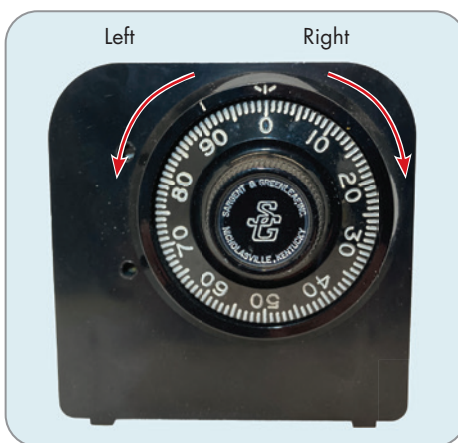

Figure 13-1: We'll refer to turning your dial counterclockwise as dialing left, and to turning it clockwise as dialing right.
- Instead of *clockwise* and *counterclockwise*, we'll refer to dialing either *right* or *left*, respectively (see Figure 13-1). Additionally, when we write *3× left to 50*, that's shorthand for dialing left three times to 50; that is, you dial left, passing 50 twice, and then stop when 50 aligns with the opening index for the third time.